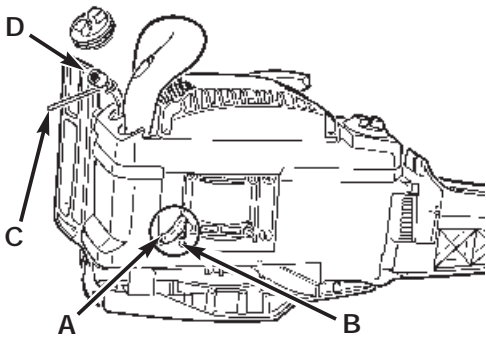

Fig. 33
1. Disconnect oil hose (A) from pump fitting (B) (Fig. 33).
2. Use a wire with a hook (C) and pull oil filter (D) from tank. Remove filter and hose completely.